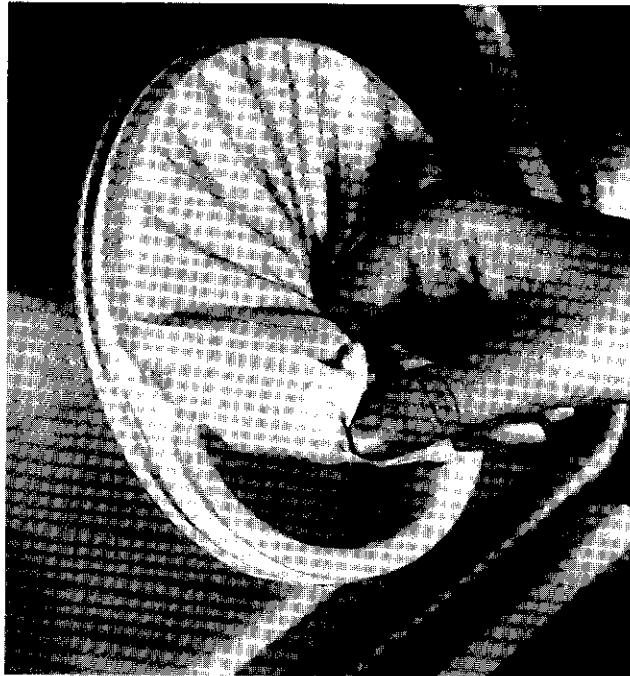

FIGURE 4.5 ACCESS PORT CUFF REPLACEMENT
8. INSTALL A NEW ACCESS PORT CUFF onto each access port gasket by stretching the larger diameter elastic band into the groove in the gasket as shown in Figure 4.5. When installed correctly, the cuff has a small opening at its center.